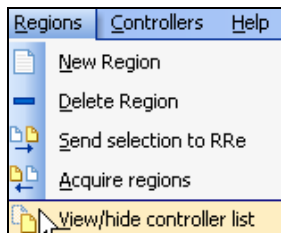

Figure 33.2.22
1. In the toolbar of the IR-Interface window select **Regions** and scroll down to **View/Hide controller list** and click on it (Figure 33.2.22).
Note: To unhide the controller list. In the toolbar of the IR-Interface window select **Regions** and scroll down to **View/Hide controller list** and click on it (Figure 33.2.22).